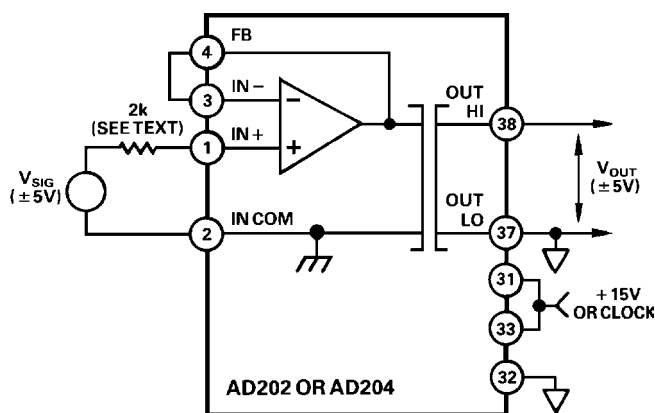

Figure 5. Basic Unity-Gain Application
**Input Configurations.** The AD202 and AD204 have been designed to be very easy to use in a wide range of applications. The basic connection for standard unity gain applications, useful for signals up to  $\pm 5\text{ V}$ , is shown in Figure 5; some of the possible variations are described below. When smaller signals must be
The “noninverting” circuit of Figures 5 and 6 can also be used to advantage when a signal inversion is needed: just interchange either the input leads or the output leads to get inversion. This approach retains the high input resistance of the “noninverting” circuit, and at unity gain no gain-setting resistors are needed.